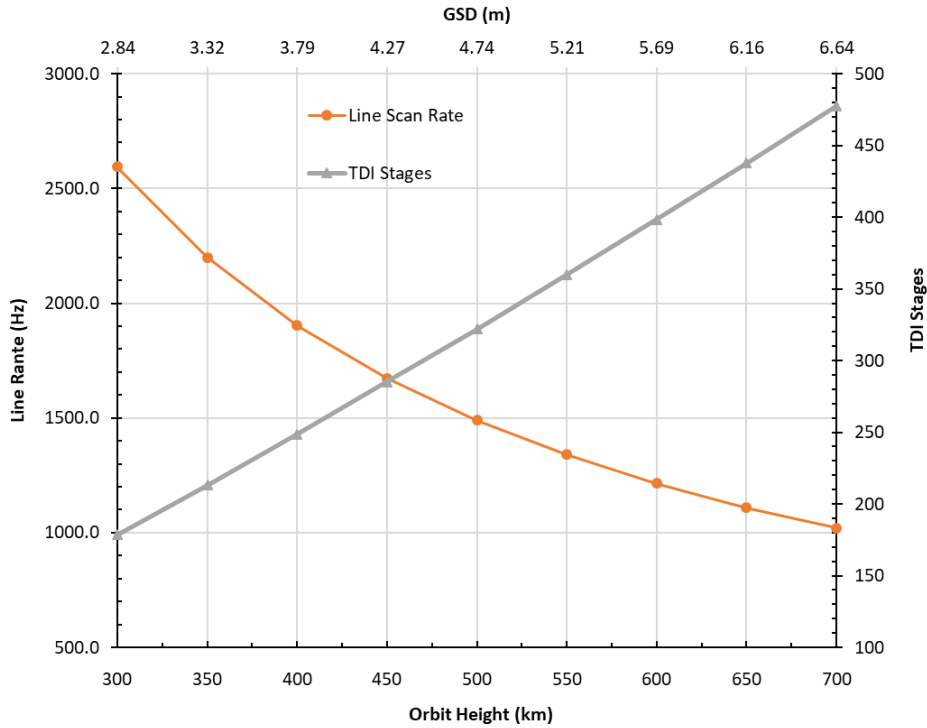

Figure 3-1: Line Rate and TDI Stages
(1) Dependant on orbit height, see Figure 3-1
(2) Including filter
(3) At 500 km orbit height
The number of TDI stages for each band may be individually selected by the user in multiples of 2, to a maximum of 32. The sum of all the TDI stages (across all the bands) is limited by the line scan rate, which is determined by the orbit height for earth observation satellites, as shown in Figure 3-1. The graph clearly shows that at lower orbit heights, an increased line scan rate reduces the total number of TDI stages available. For example, at 500 km orbit height, a total of 320 TDI stages are available so that the user may select 10 TDI stages for each of the 32 bands.